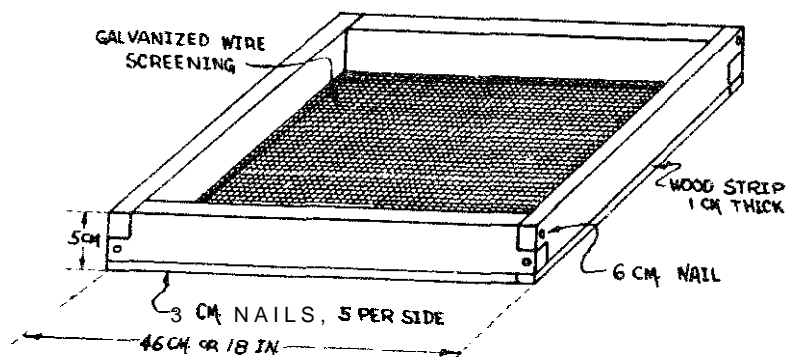

FIGURE 1
As shown in Figure 1, the chute is attached at the top of the 80cm (2'7") support by nails whose heads have been removed. This makes it easy to remove the chute when it is not being used. The chute's lower end sits on the 2cm x 4cm x 25cm (3/4" x 1 1/2" x 10") support attached to the platform.
- o Waterproof chest that **will** keep out vapor, to dry and store the grain. A steel drum or sheet metal cabinet would be good. A wooden chest can be used if it is vapor-proof, as in Figures 1, 2, and 3.